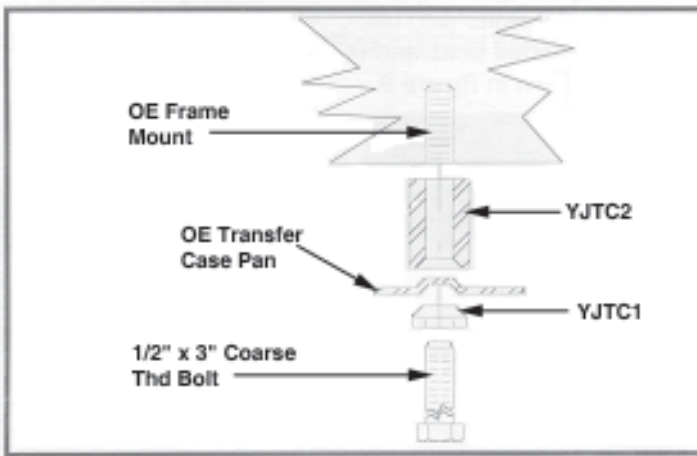

Fig. 8
- 6. Lower transfer case as shown in **Fig. 8**.